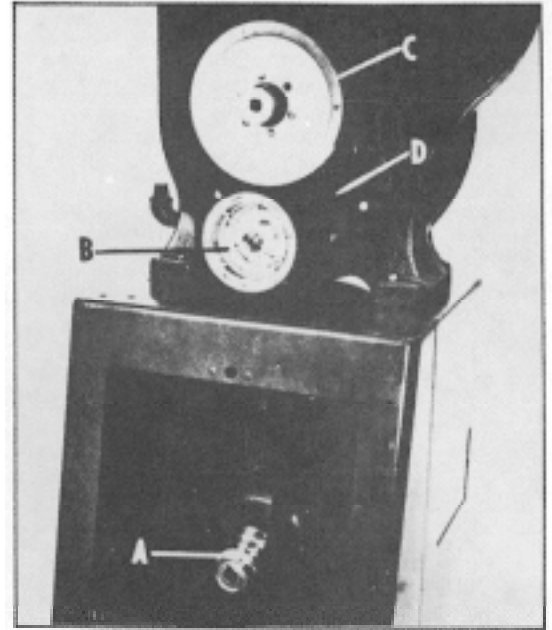

Fig. 8
5. Assemble motor pulley (A) Fig. 8, to the motor shaft as shown. When assembling the motor pulley (A) to the motor shaft it is necessary to use 3/4" to 5/8" reducing bushing on the motor shaft. NOTE: motors recommended for use with this band saw have 5/8" motor shafts. The motor pulley (A) Fig. 8 is supplied with a 3/4" bore to enable it to be interchanged with the gear box pulley (B) as explained later in this manual.
6 Using a Straightedge align the inside grooves of the pulleys (A) and (B) to the pulley (C) Fig.8. The pulleys can be moved in or out on the shafts and also the motor mounting plate can be moved if necessary.
7. Assemble the large V-Belt (D) to the inside groove of the motor pulley (A) and to the large pulley (C). Assemble the smaller V-Belt to any one of the remaining three grooves of the motor pulley (A) and the corresponding groove of the gear box pulley (B) Fig. 8.